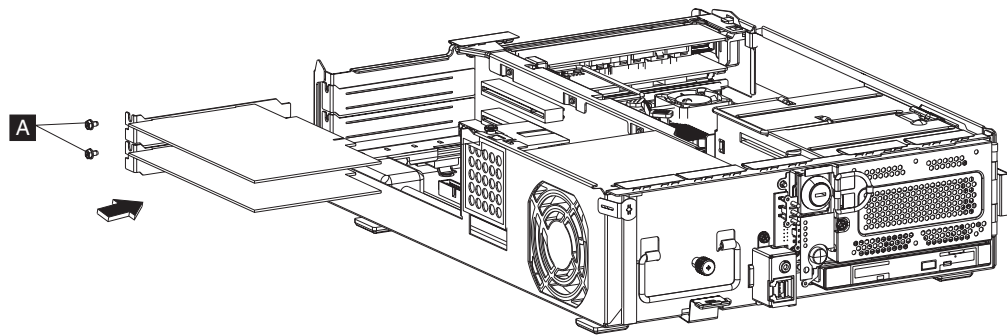

Figure 32. Removing feature cards
2. Locate any installed feature cards and retaining screws (**A** in Figure 32). Remove the screws and pull the feature card out of the system.